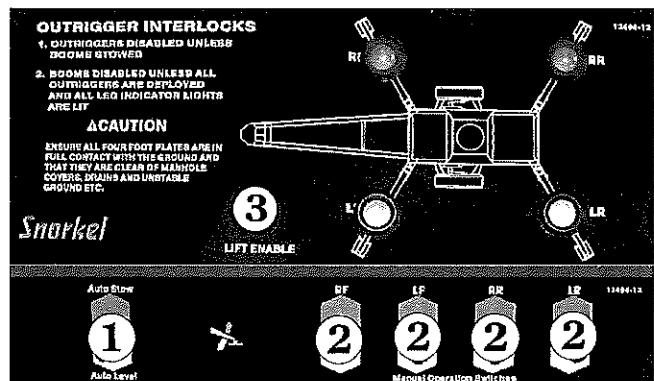
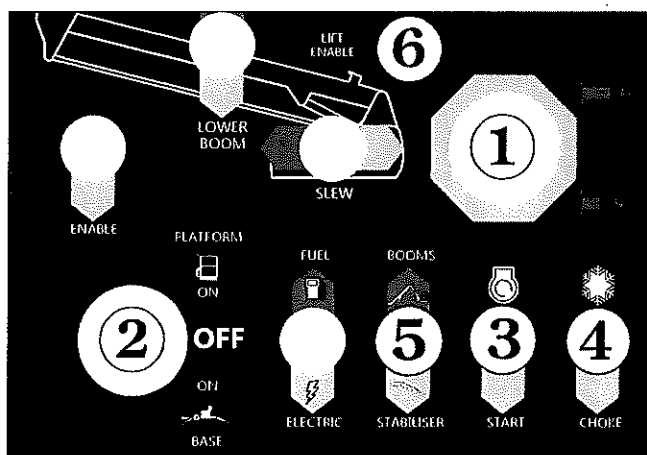

Figure 8.4 - Auto Level Controls
Figure 8.5 - Ground Control Box Starting
Ensure the boom/stabiliser switch (item ⑤ on the ground control box) (see Figure 8.5) is set to stabiliser.
When levelling the machine in either the manual or automatic mode care is required to ensure that all of the foot plates are firmly on the ground, the machine is level and the lift enable light (item ③ Fig 8.5, and item ③ Fig 8.4) is ON before entering the platform.
1. Operate each switch ② (see Figure 8.4) to raise or lower each stabiliser one (1) at a time. Use the level bubble (see Figure 2.7 in Safety Devices Chapter) to check the machine is level.
1. Set the **Emergency Stop** switch ① to ON (see Figure 8.5).
2. Insert the key and set the **Platform/Ground Selector** switch ② to GROUND (see Figure 8.5).
3. If the engine is at ambient temperature (cold), hold the **Choke / Cold Start** Switch ④ DOWN throughout the next step.
5. Press DOWN on the **Start Switch** and hold it there until the engine starts or for a maximum time of 6 seconds. When the engine starts release the start switch ③ and the choke switch ④, if you used it (see Figure 8.5).